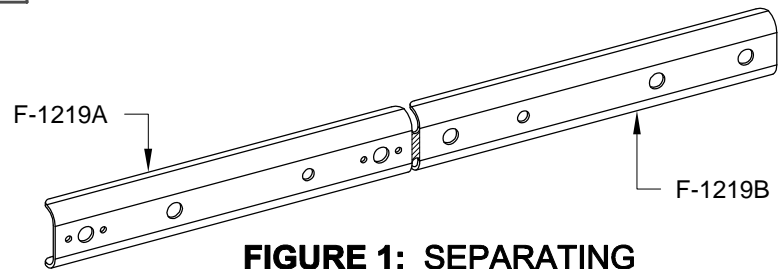

FIGURE 1: SEPARATING THE F-1219 FLAPERON MIXER ARM
Step 1: Separate the F-1219 Flaperon Mixer Arm by removing the hatched area shown in Figure 1.